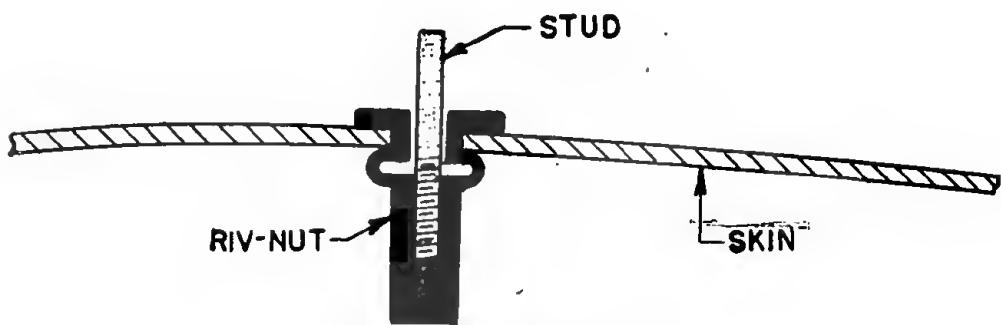

Figure 172. Riv-nut stud.
f. RIV-NUT STUDS. (1) To hold the de-icer boot in place while the fairing strip is being applied and some of the riv-nuts are inserted, riv-nut studs are used. A riv-nut stud is merely a bolt of the proper size with the head cut off and filed smooth so that there will be no danger of cutting the boot. (See fig. 172.)